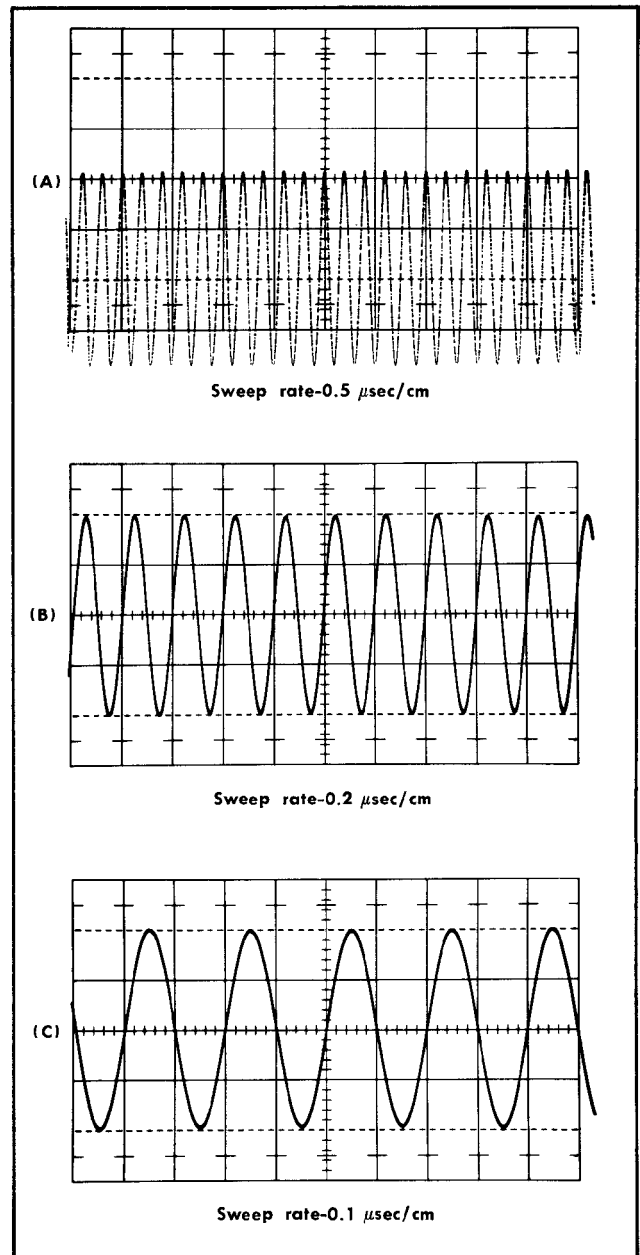

Fig. 5-54. Typical indicator oscilloscope displays for checking 1-2-5 timing ratio with a 5 Mc sine wave.
- j. Check the 1-2-5 ratio as indicated in Table 5-1 and Fig. 5-54. Timing of each sweep rate should be within 1% (0.08 cm) over the center 8 cm of the graticule, and timing of the 3 rates should be within 1% of each other.